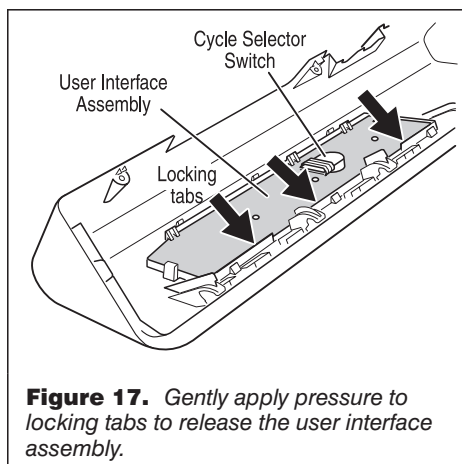

Figure 17. Gently apply pressure to locking tabs to release the user interface assembly.
6. Remove the cycle selector switch from the user interface assembly opening by lifting the locking tab on the cycle selector switch and turning the selector switch in a counterclockwise direction. See figure 17.
7. Locking tabs located at the bottom of the console insert panel secure the user interface assembly to the console insert panel. Using a flat-blade screwdriver, gently apply pressure to the locking tabs to release the user interface assembly. See figure 17.